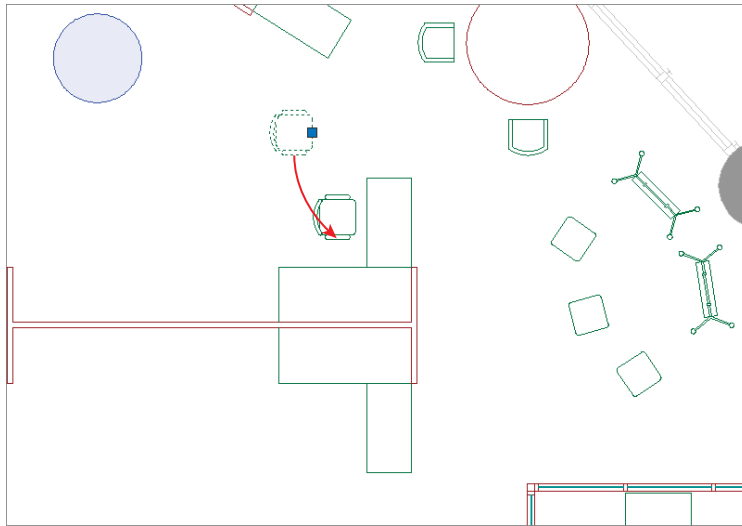

FIGURE 4.10 Moving a selected object by dragging
3. Click the chair that is not in front of a desk to select it. Position the cursor over the selected chair, but not over its grip. Drag the chair to move it closer to the upper desk, as shown in Figure 4.10.